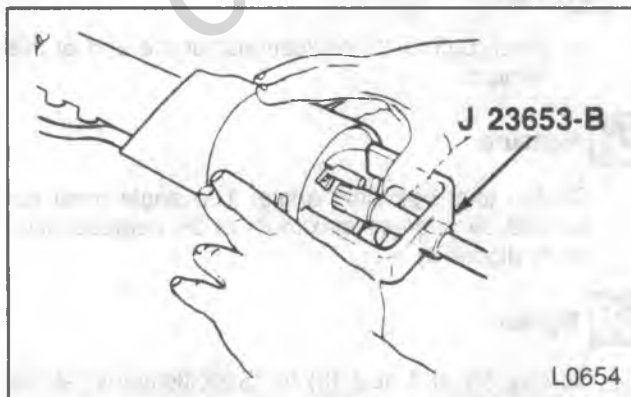

Figure 14—Retaining Ring Installation
↔ Install or Connect (Figure 14)
- Screw the center post of J 23653-B onto the steering shaft as far as it will go. Place a NEW retaining ring over the center post. Place the "C" bar over the center post and then compress the lock plate by turning the nut clockwise. Slide the new retaining ring down the tapered center post and into the shaft groove (figure 14). Remove J 23653-B.